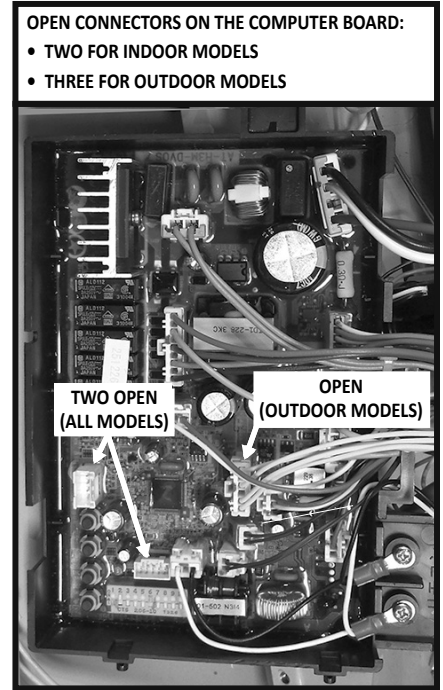

Figure 83.
- Indoor Models: There are two (2) receptacles on the computer board that will be open (Figure 83).
Outdoor Models: There are three (3) receptacles on the computer board that will be open (Figure 83).